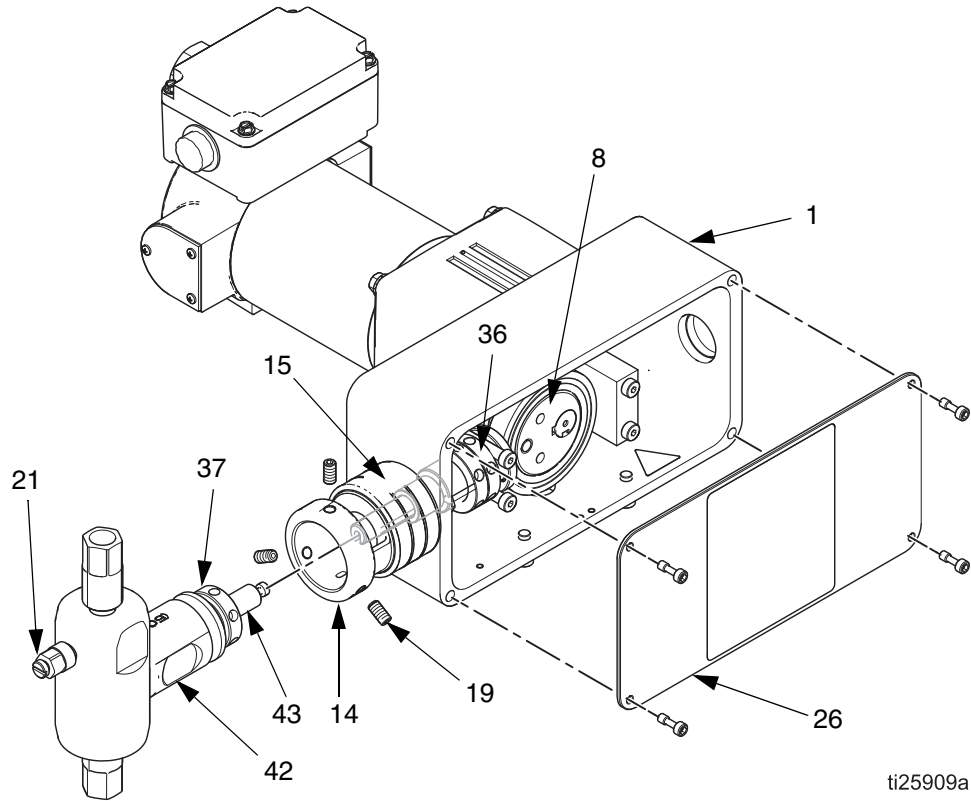

FIG. 20 Disconnect Wolverine Advanced Pump
2. Remove dust cover screws and dust cover (2b) and o-ring. See FIG. 20 on page 35.